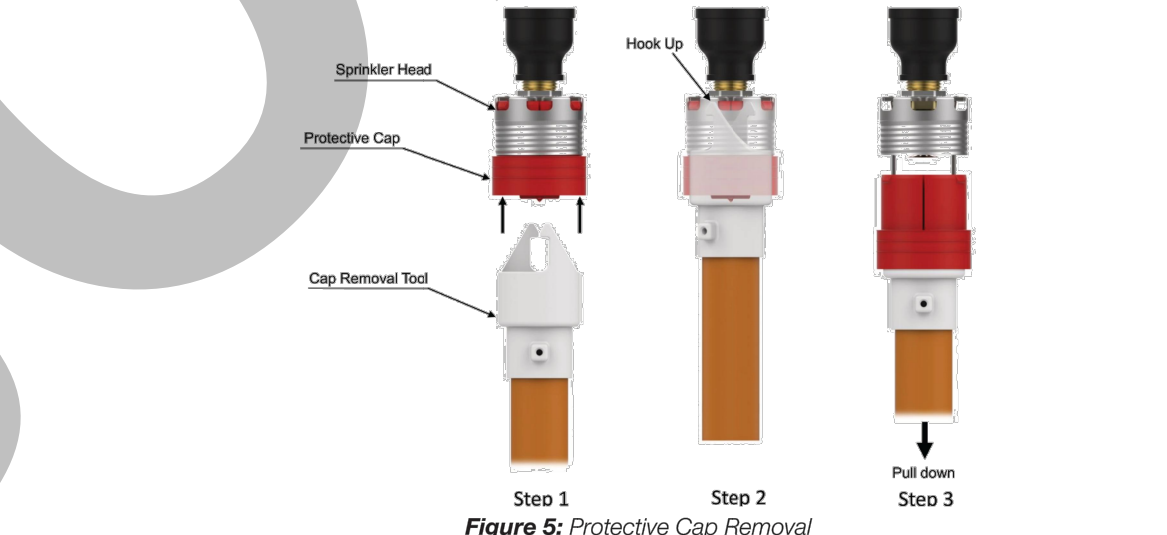

Figure 5: Protective Cap Removal
Step 4: Use the Cap Removal Tool for RC to remove the Protective Cap (Ref. Figure 5), and then push or screw a Cover Plate Assembly on the Cup of the Sprinkler by hand until its flange just has contact with the ceiling (Ref. Figure 6 and Figure 7). Stop tightening the Cover Plate Assembly once the flange has contact with the ceiling. If the ceiling has been lifted from its normal position in the process of tightening the Cover Plate Assembly, readjust the cover plate assembly as necessary. If the flange of the Cover Plate Assembly cannot contact the ceiling sufficiently, readjust the sprinkler fitting as necessary. When properly installed, there is a nominal 1/16 inch (1.6mm) air gap between the lip of the Cover Plate and the ceiling, as shown in Figure 6.